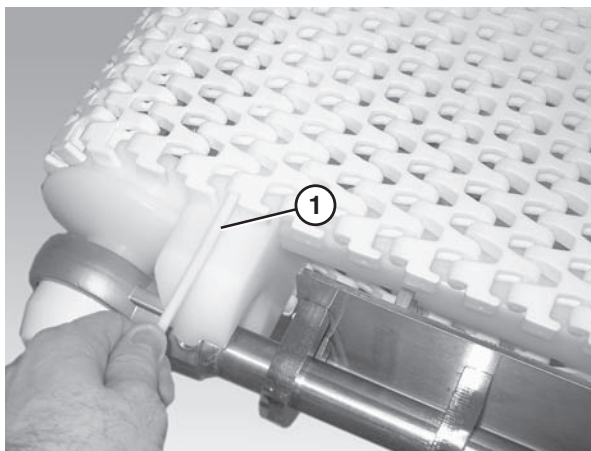

Figure 38
4. Insert the belt rod (**Figure 38, item 1**).